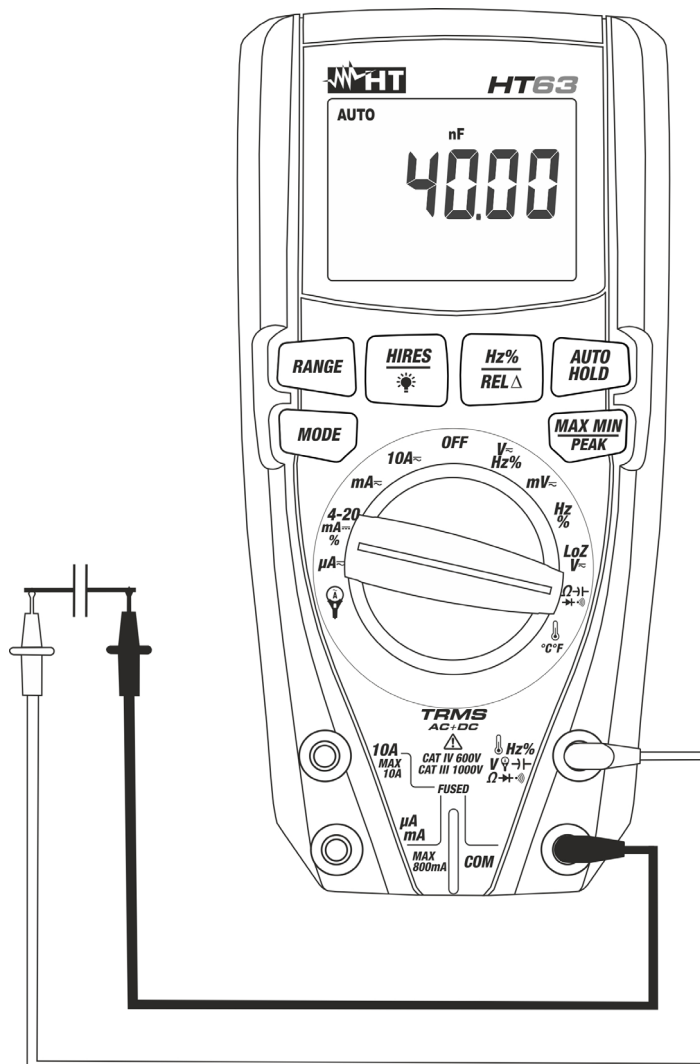

Fig. 8: Use of the instrument for Capacitance measurement
5. Position the leads at the ends of the capacitor to be tested, respecting, if necessary, the positive (red cable) and negative (black cable) polarity (see Fig. 8). The display shows the value of capacitance. The bargraph is not active in this function. **Depending on the value of capacitance to be measured, the instrument could take approx. 20s before displaying the final value**